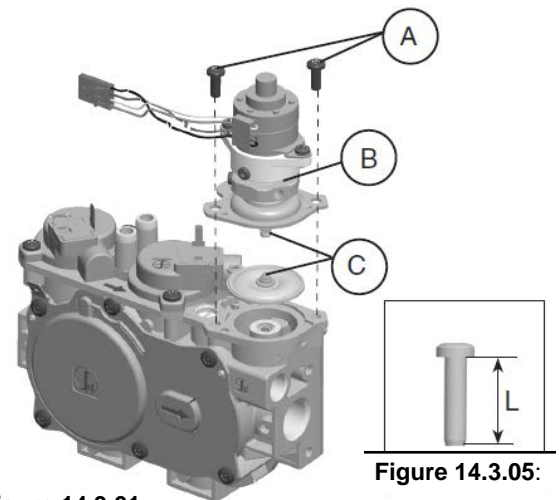

Figure 14.3.01:
- Pressure regulator assembly (E)
- Two (2) screws (F)
- Identification label (G)
2. See **Figure 14.3.01**. Using a Torx T20, or slotted screwdriver, remove and discard the two (2) pressure regulator mounting screws (A), pressure regulator tower (B), and the spring and diaphragm assembly (C), (if applicable).